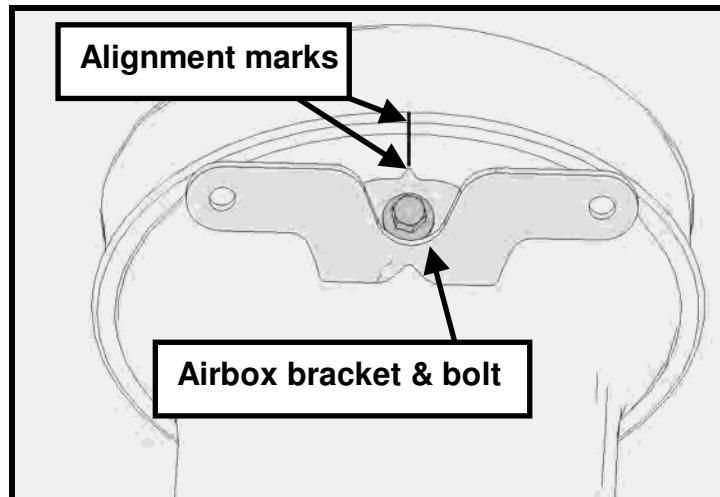

Fig. 5
STEP 2: Install the clean air tube support bracket (R07060104) to the clean air tube and position using the alignment marks on both the bracket and the tube. Secure the bracket to the tube using bolt (N605771) supplied in kit (See Fig. 5). **NOTE:** Apply medium-strength thread locking compound to the bolt threads prior to installation and torque to 10 Nm (88 lb in).